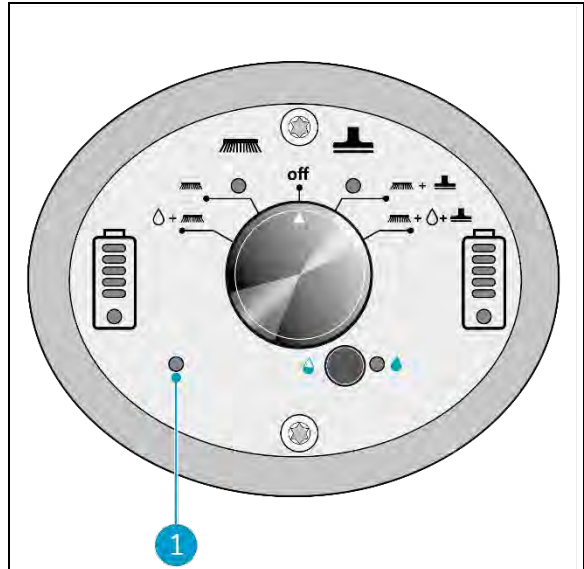

Figure 26
The water level warning indicator is situated on the control panel (Figure 26, pos. 1). When the recovery tank needs to be replaced, the indicator light will turn on and the machine will be shut off.